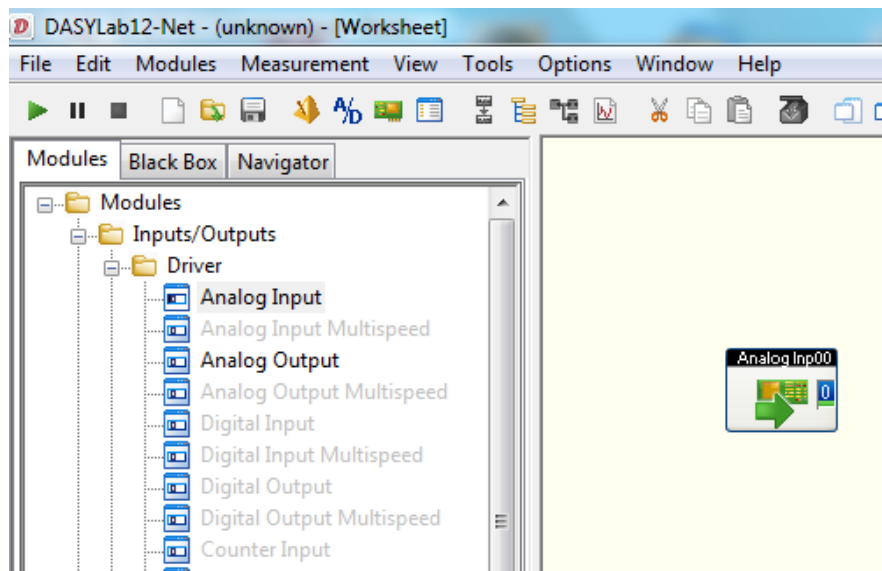
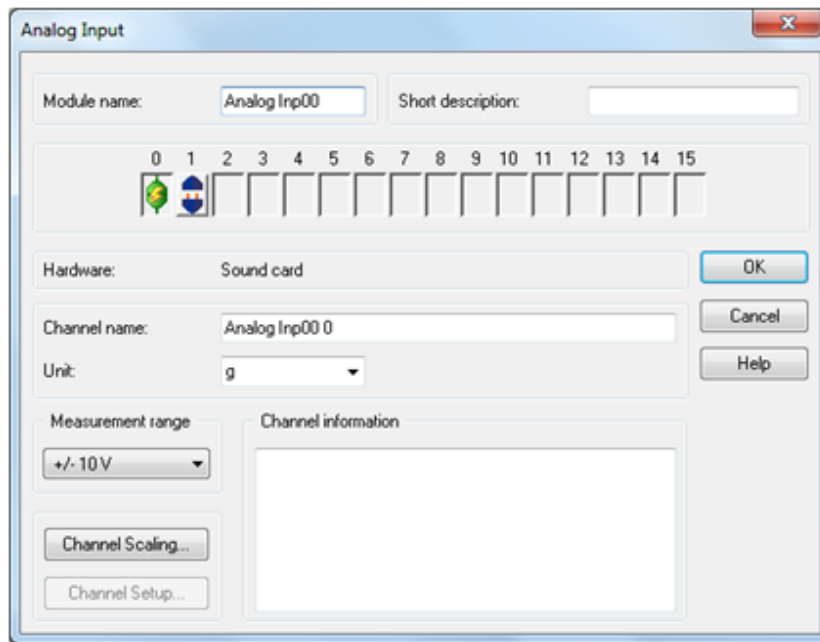

Figure 6.1 // Selecting input module
Figure 6.5 // Analog Input window
Figure 6.1 presents a part of DasyLAB software's main window. Before using the AVA 2000 module, it is necessary to properly configure the driver and the sampling parameters. To do that click on the Measurement menu and then on the Select Driver option.
To do that, open Modules menu from the DasyLAB main bar, choose options: Inputs/Outputs → Driver and then drag the Analog Input module onto the software working area (Figure 6.1). By default only one input channel is active. After double clicking on the Analog Input module icon, the Analog Input configuration window will appear. It allows to activate the second channel, select measurement range and change channel names (Figure 6.5).
- » Enable/disable input channels. Available input channels are labelled with the socket and connector icon. Figure 6.5 shows the situation when channel 0 is enable (symbol of lightning on connected socket and connector), while channel 1 is disabled (symbol of disconnected socket and connector). It is possible to enable channel 1 by double clicking on corresponding to it socket and connector icon, after that icon will change. To disabled the channel, icon has to be double click again,